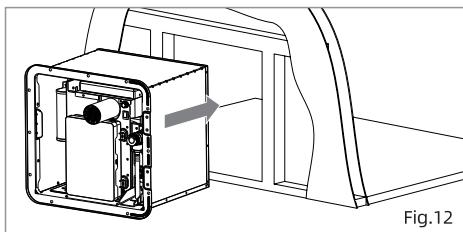

Fig.12
1. Position the water heater and decorative frame carefully into the frame opening, evenly space the flange to the exterior wall of the RV. (Fig.12)